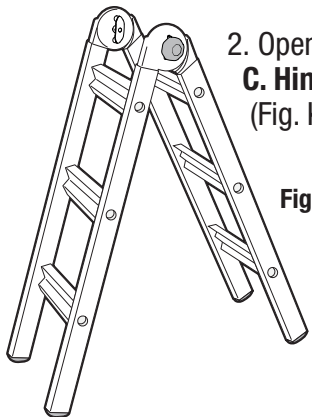

Fig. K2
2. Open Inner Ladder Unit (See steps C1 and C2 of **C. Hinge Lock operation**, Pg. 4) and place upright (Fig. K2).